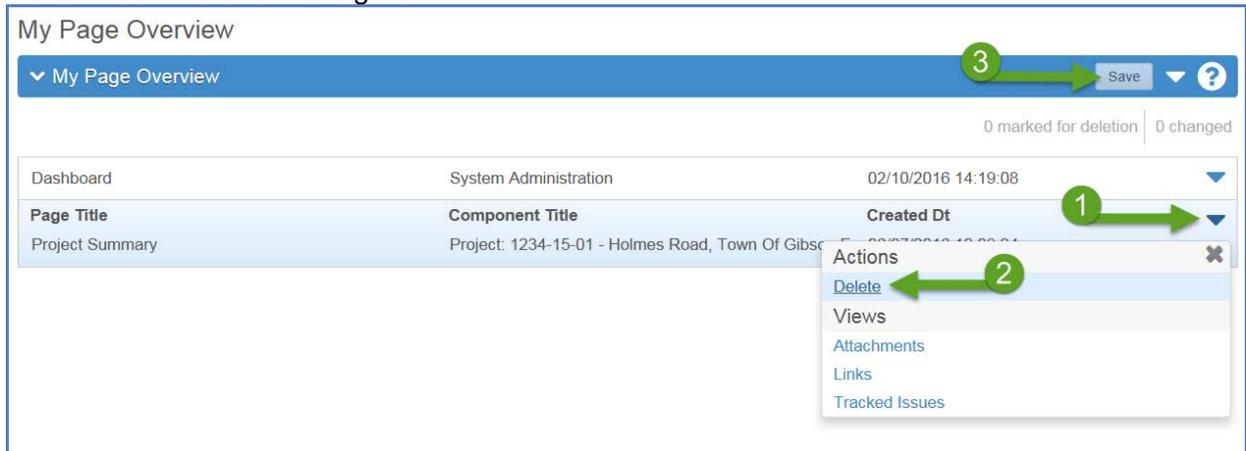

Figure 8
1. From any page, click **<My Pages>** on the Menu Bar. The My Page Overview component will open. (*Figure 8*)